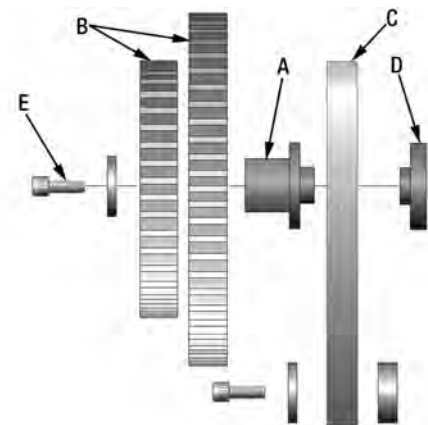

FIGURE 31
2. Loosen cap screw (B), at the bottom of the gear support bracket (C) and allow it to rotate downward.
3. Remove the cap screw (D) Fig.28 in the middle of the gears B/C. This will allow removal of the gears and rear bushing (A) Fig.31 supporting them. Remove gears B/C. A T-nut (A) Fig.29 will remain in the gear support bracket as shown.
6. Insert the rear bushing (A) Fig.31 into the 60/127 tooth gears (B) from the side that has 127 teeth. Align the flats of the rear bushing to the slot in the gear support arm (C) and loosely fasten the assembly to the T-nut (D) using the cap screw (E).